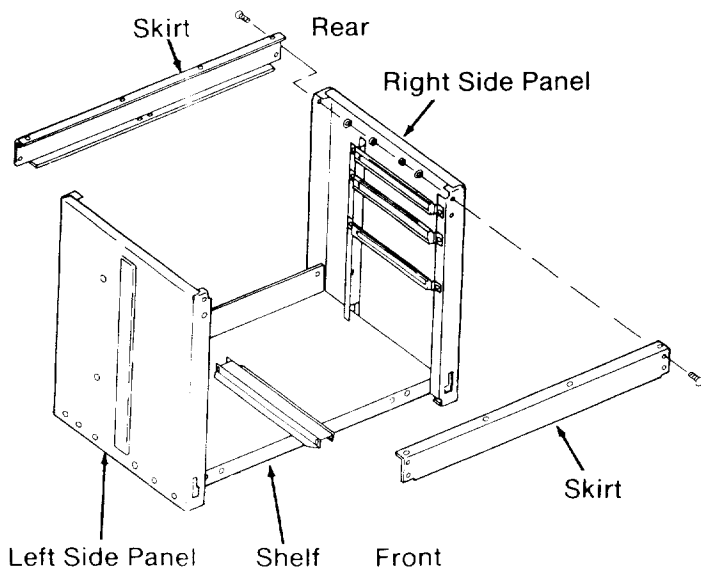

Fig. 53
22. Turn the *cabinet* right side up. Attach the *skirts* to the top of the *side panels*, with one on the front of the cabinet and the other on the back. (Figure 53)
23. Use eight truss head bolts, lockwashers, and hex nuts to hold the *skirts* in place. Hand-tighten. (Figure 53)